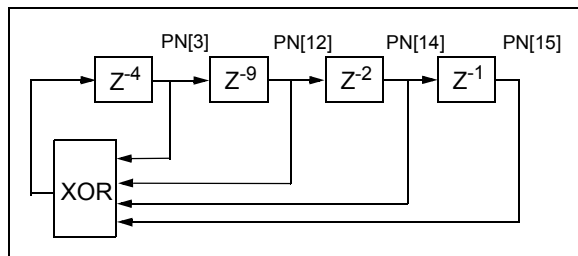

FIGURE 4-27: Block Diagram of 16-Bit LFSR for Pseudo-Random Number (PN) Sequence for Output Test Pattern.
4.12.12.1 Pseudo-Random Number (PN) Sequence Output
When TEST_PATTERNS<2:0> = 111, the device outputs a pseudo-random number (PN) sequence which is defined by the polynomial of degree 16, as shown in Equation 4-11. Figure 4-27 shows the block diagram of a 16-bit Linear Feedback Shift Register (LFSR) for the PN sequence.
The valid synchronized output is available when all devices complete their own internal calibration. For this reason, the user has two options for the synchronized output: (a) monitor the calibration status of individual devices and wait until all devices complete calibrations or (b) use an external AND gate as shown in Figure 4-27. Master and all Slave devices are synchronized when the AND gate output toggles to "High".